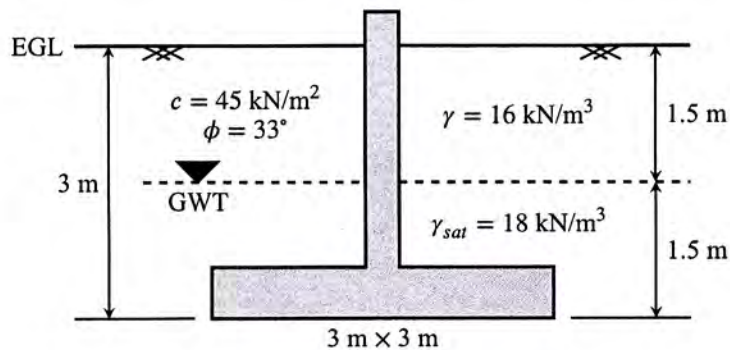

Figure 1: Question 1 (c)
- (b) A ten-story RCC office building is to be built on a site where the soils are expected to be of average quality and average uniformity. The building will have a 50 m × 30 m footprint area and is expected to be supported on individual shallow foundations located 2 m below the ground surface. Determine the required number and depth of the boring. (3)
- (c) For the individual square shallow footing as shown in Fig. 1, determine: